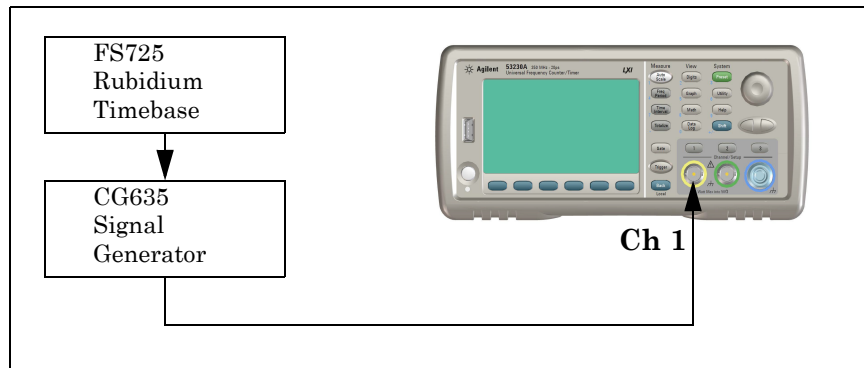

Figure 1-3. Absolute Timebase Test Setup
- 1 Connect the equipment as shown in Figure 1-3.